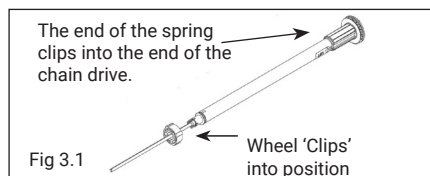

Fig 3.1
2. Clip the spring into the end of the chain drive and slide the supplied wheel over the end of the spring shaft and clip into position (Fig 3.1).